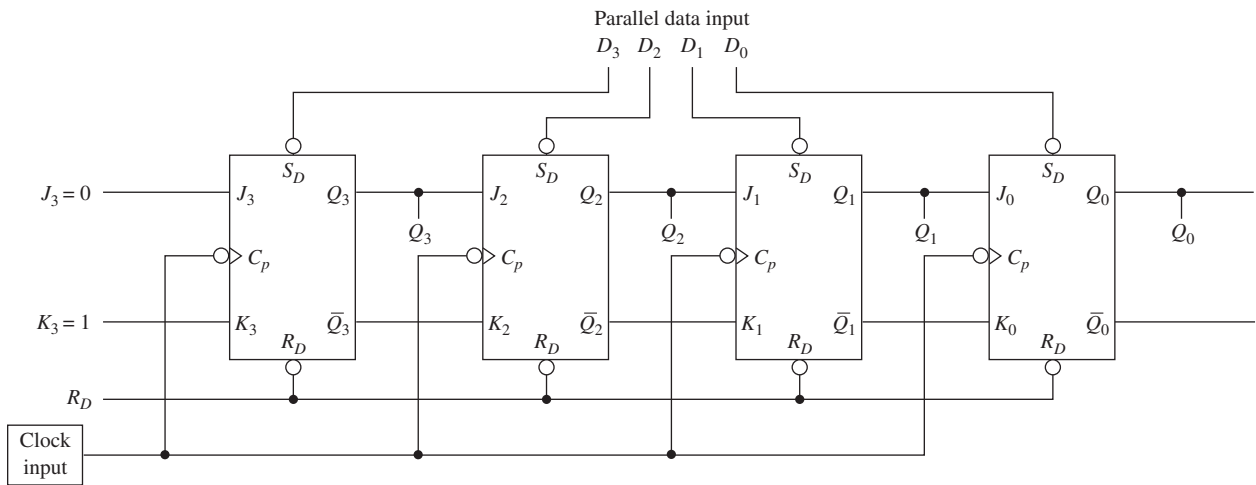

Figure P1
1. In Figure P1, will the data bits be shifted right or left with each clock pulse? Will they be shifted on the positive or negative clock edge?
2. If the register of Figure P1 is initially parallel loaded with $D_3 = 0, D_2 = 1, D_1 = 0,$ and $D_0 = 0$, what will the output at Q_3 to Q_0 be after two clock pulses? After four clock pulses?
4. Change Figure P1 to a recirculating shift register by connecting Q_0 back to J_3 and \bar{Q}_0 back to K_3 . If the register is initially loaded with $D_3 - D_0 = 1001$, what is the output at Q_3 to Q_0 :
5. Outline the steps that you would take to parallel load the binary equivalent of a hex B into the register of Figure P1.
6. To use Figure P1 as a parallel-to-serial converter, where are the data input line(s) and data output line(s)?
8. What changes have to be made to the circuit of Figure P1 to make it a Johnson shift counter?